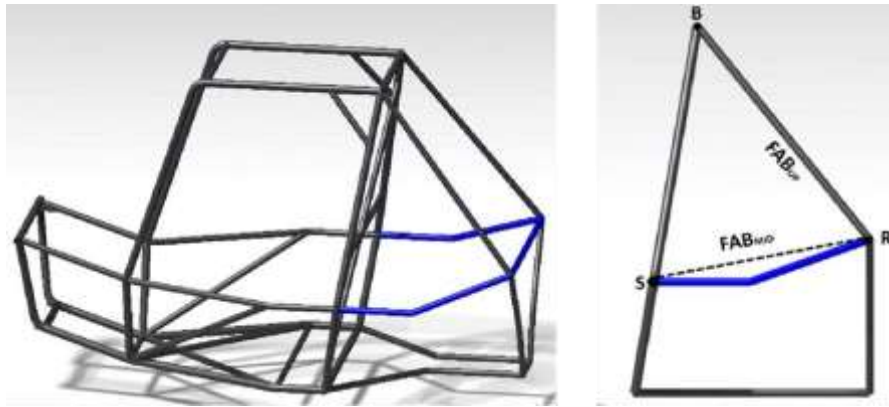

Figure C-8: Reference plane for Accumulator(s) removal
6. Removing the Accumulator(s) setup shall be restricted to the respective plane in which the setup is mounted. Refer to figures C- 8 mentioned below,